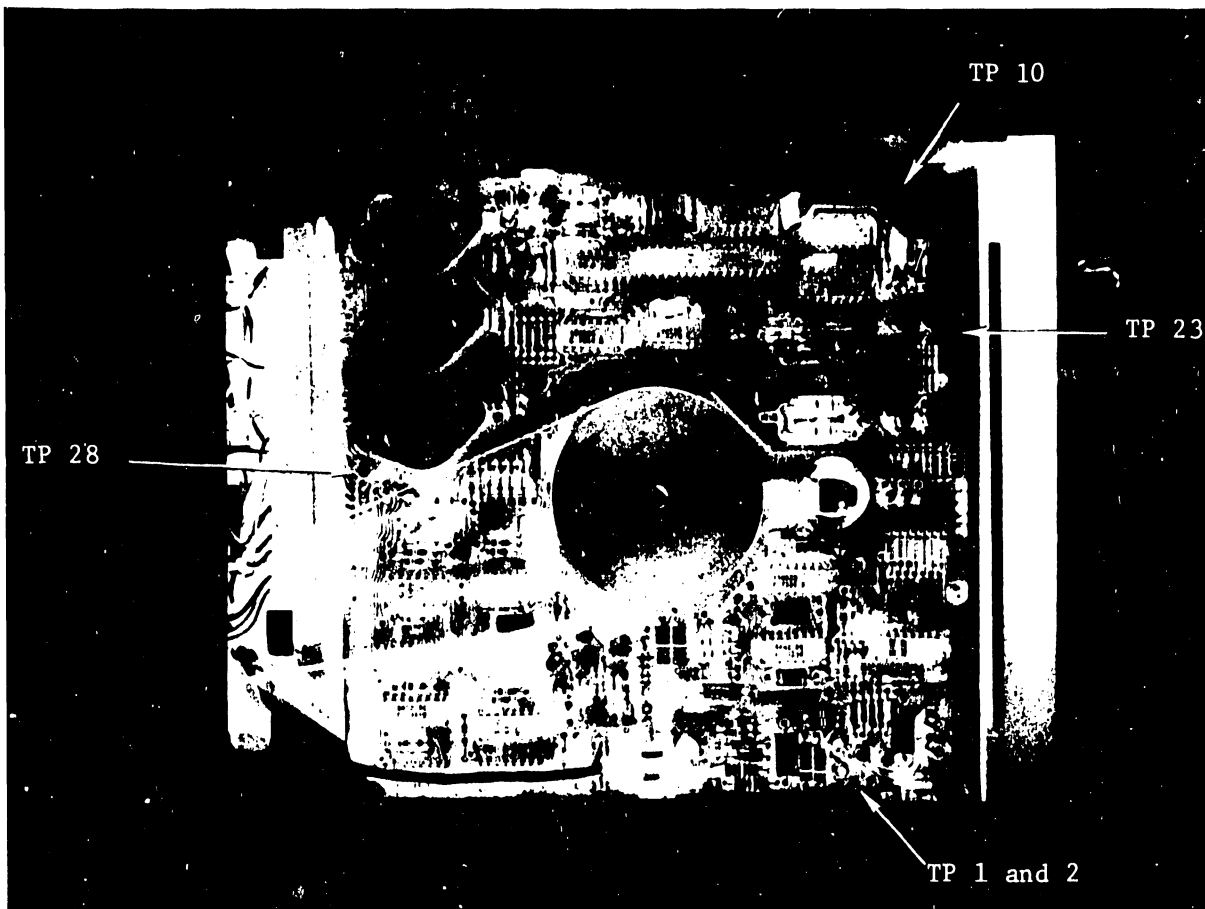

FIGURE 10 TEST POINTS
- 2) Ground TP28 on PC board to load the head. (See Figure 10)